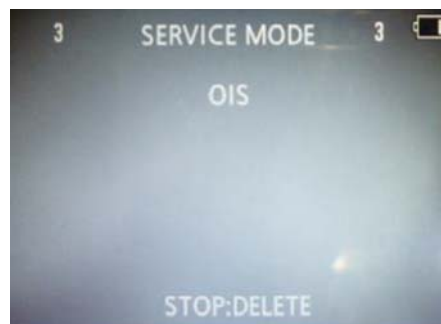

Fig.3-3
2. Press “[W] side of the zoom button” after Flag reset. OIS Adjustment screen is displayed on the LCD panel. (Refer to Fig.3-3)